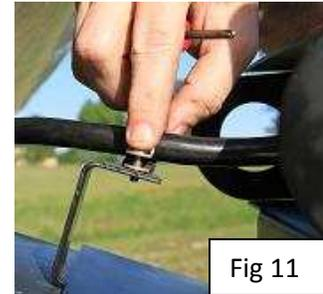

Fig 11
- 6) Position the cable guide clamp around the power cable behind the trailer bracket and fastened to the cable support flange with the #10 screw and #10 nut, as shown in fig 11.